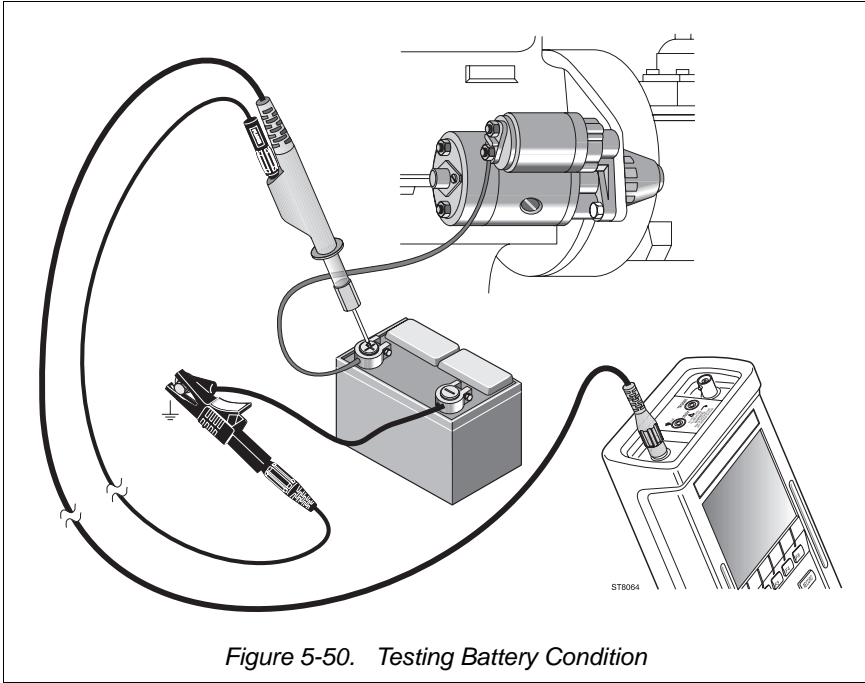

Figure 5-50. Testing Battery Condition
- Read the display for connection information and instructions to perform the test. See the test setup in Figure 5-50.